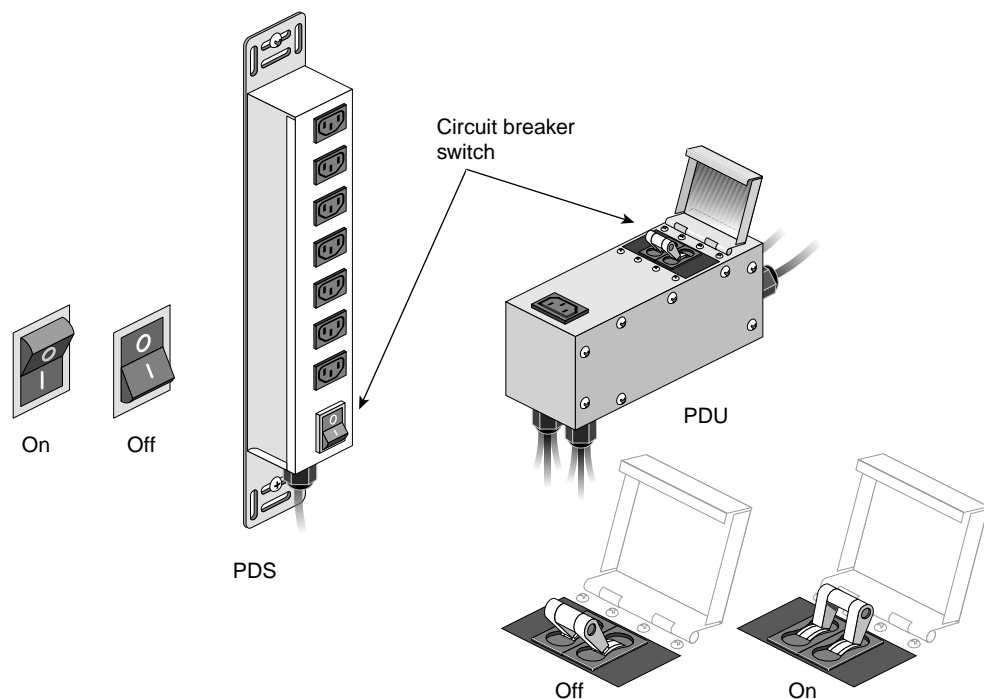

Figure 4-5 Assuring PDU or PDS Circuit Breaker Switches Are Turned On
1. Turn on the PDU and/or PDS circuit breaker switches (shown in Figure 4-5).
1. Turn the PDU and/or PDS circuit breaker switches (shown in Figure 4-5 on page 58) to the Off position.